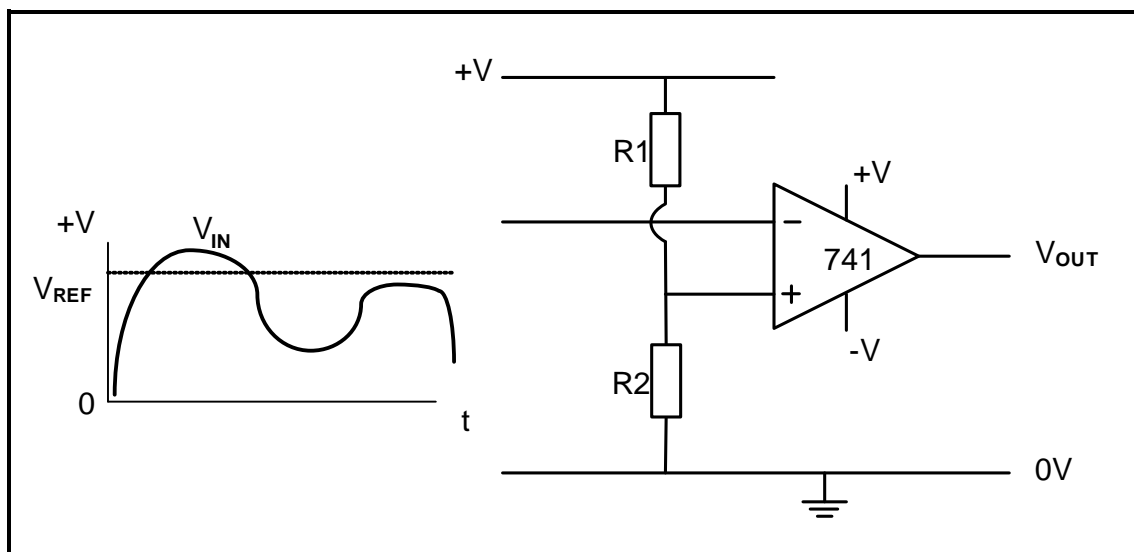

FIGURE 2.6: COMPARATOR
2.6 Refer to FIGURE 2.6 below and answer the questions that follow.
2.6.1 Explain what is meant by *open loop* with reference to FIGURE 2.6. (2)